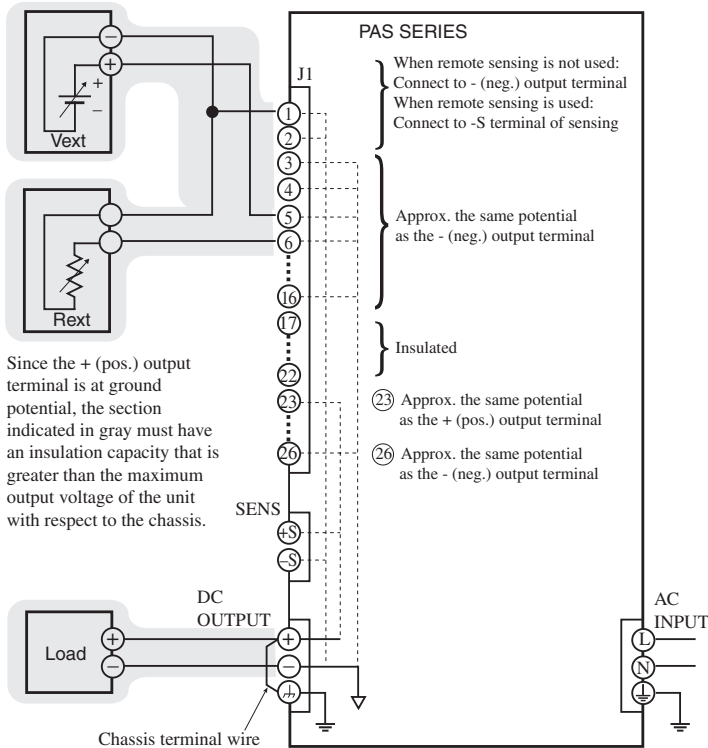

Fig.2-11 When the + (pos.) output terminal is grounded
- If the unit is to be remotely controlled through an external voltage source (Vext), do not ground the Vext output (leave it floating). If the Vext output is grounded in the example shown in Fig.2-11, the output is short-circuited (which can cause accidents).
Fig.2-11 shows the case when the + (pos.) output terminal is connected to the chassis terminal. In this case, the + (pos.) output terminal is at ground potential. Therefore, the cable and load that are connected to the output terminal (including the sensing terminal) only require an insulation capacity that is greater than the maximum output voltage of the unit with respect to the chassis.